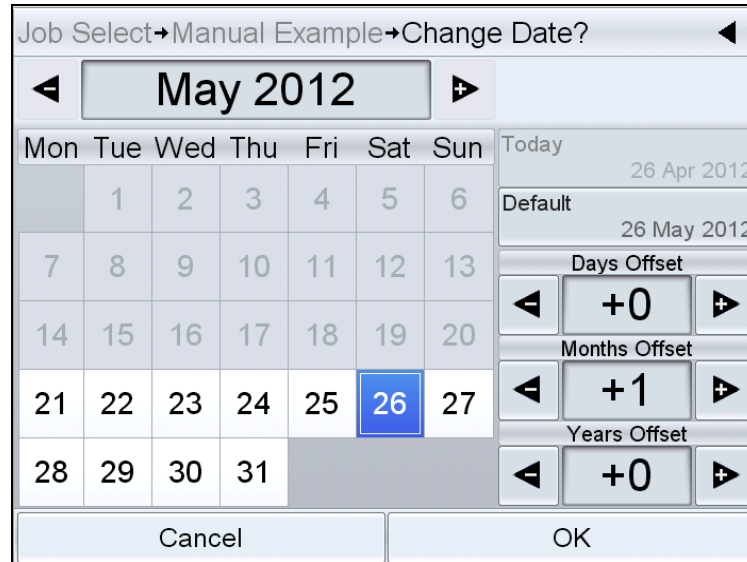

Figure 6-24: Calendar Page
- d. Touch the data window to display the Calendar page (see Figure 6-24).